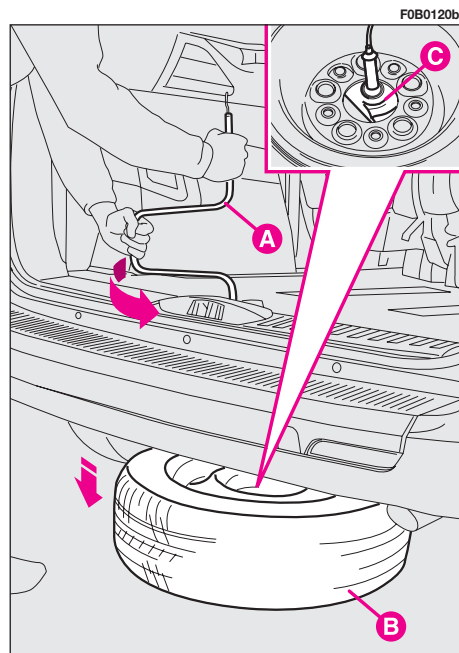

fig. 5
9) Use handle **A**-fig. 5 to loosen the spare wheel bolt **B**.